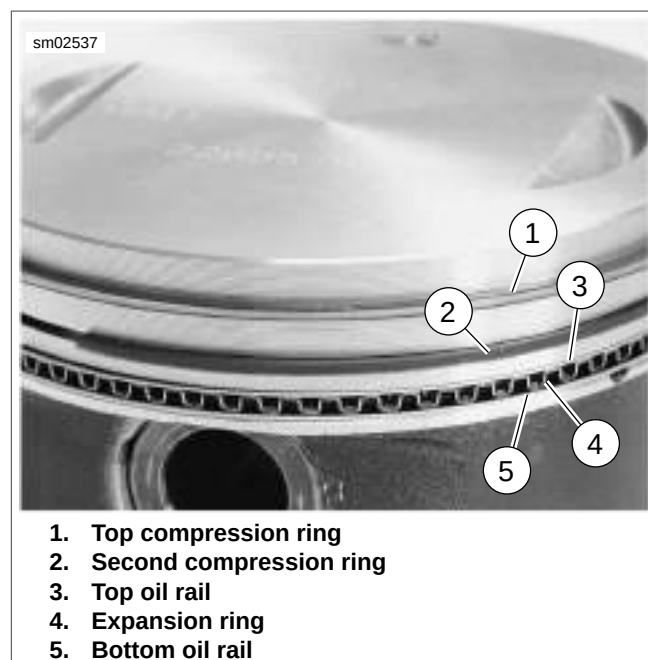

Figure 3-105. Piston Rings
1. See Figure 3-105. Apply clean H-D 20W50 engine oil to three piston ring grooves.
2. Install expansion ring (4) into third ring groove.
3. Spiral bottom oil rail (5) into space below expansion ring (4). Position gap 90° from the gap in the expansion ring.
4. Spiral top oil rail (3) into space above expansion ring (4). Position gap 180° from the gap in the bottom oil rail.